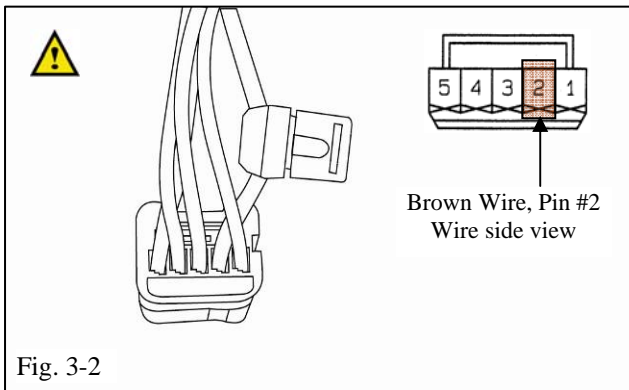

Fig. 3-2
- (b) Attach a T-tap to the BROWN wire (Pin #2) with needle nose pliers approximately 1 inch from the connector. (Fig 3-2)
- (1) Ensure both halves of T-tap connector are snapped together.